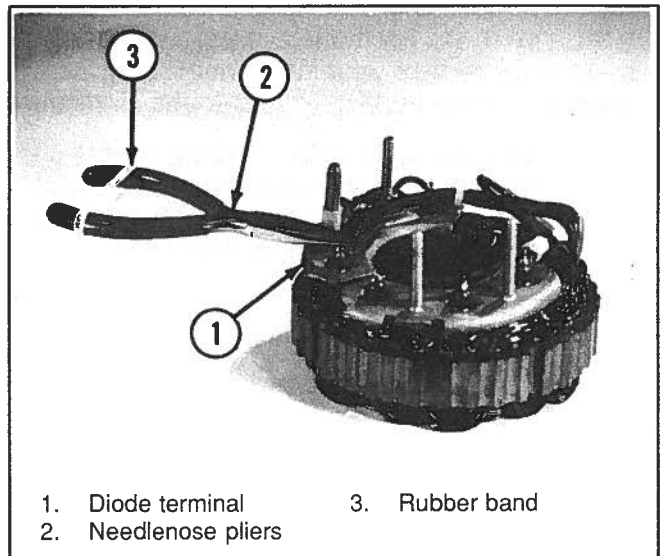

Figure 6-98. Unsoldering Diode Connections
9. Unsolder stator and diode trio leads from rectifier diode terminals. Place needlenose pliers on diode terminal between solder joint and diode body (Figure 6-98) to help prevent heat damage to diodes. Unsolder joints as quickly as possible and allow diode terminal to cool before removing pliers.